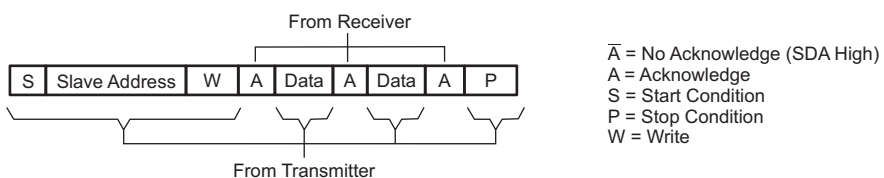
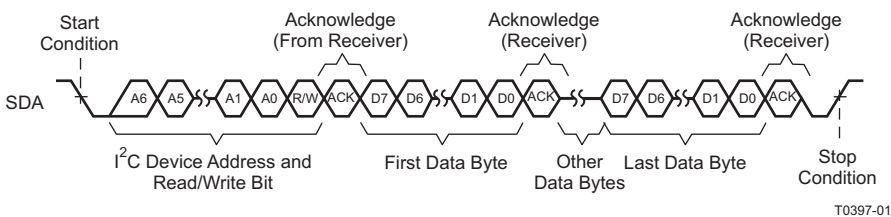
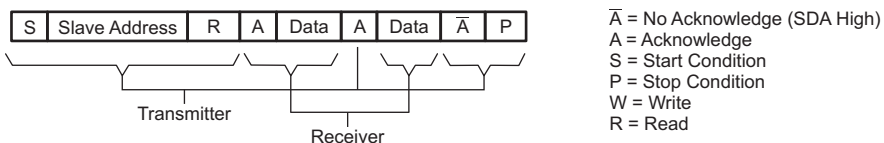
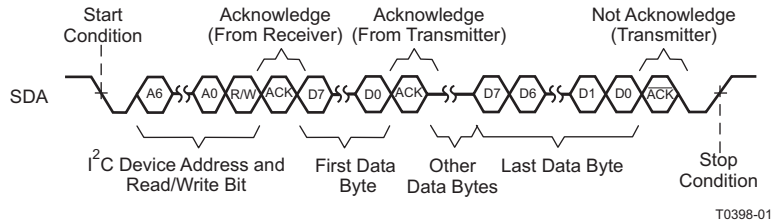

Figure 54. I²C Write Cycle
Figure 55. Multiple-Byte Write Transfer
Figure 56. I²C Read Cycle
Figure 57. Multiple-Byte Read Transfer
- The master generates further SCL cycles to either *transmit* data to the slave (R/W bit 0) or *receive* data from the slave (R/W bit 1). In either case, the *receiver* must acknowledge the data sent by the *transmitter*. So an acknowledge signal can be generated either by the master or by the slave, depending on which one is the receiver. The 9-bit valid data sequences consisting of 8-bit data and 1-bit acknowledge can continue as long as necessary (See Figure 54 through Figure 57).
During a write cycle, the transmitting device must not drive the SDA signal line during the acknowledge cycle so that the receiving device may drive the SDA signal low. After each byte transfer following the address byte, the receiving device pulls the SDA line low for one SCL clock cycle. A stop condition is initiated by the transmitting device after the last byte is transferred. An example of a write cycle can be found in Figure 54 and Figure 55. Note that the TMDS261B allows multiple write transfers to occur. See the *Example – Writing to the TMDS261* section for more information.
During a read cycle, the slave receiver acknowledges the initial address byte if it decodes the address as its address. Following this initial acknowledge by the slave, the master device becomes a receiver and acknowledges data bytes sent by the slave. When the master has received all of the requested data bytes from the slave, the not-acknowledge (A) condition is initiated by the master by keeping the SDA signal high just before it asserts the stop (P) condition. This sequence terminates a read cycle as shown in Figure 56 and Figure 57. See the *Example – Reading from the TMDS261* section for more information.